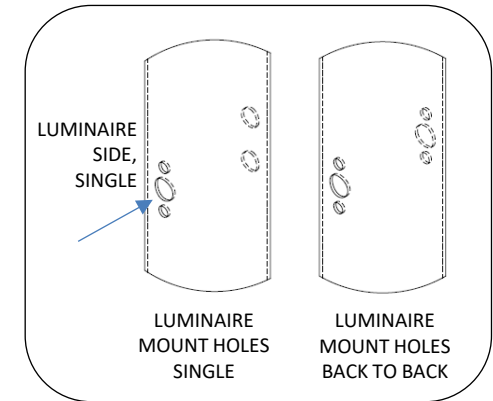

Fig. 2 – LUMINAIRE MOUNTING HOLES
1. Attach clamp to pole. For single luminaires, note front clamp and back clamp orientation and location of holes on pole, see Figs. 2 and 3. For back to back luminaires, see Figs. 2 and 4.